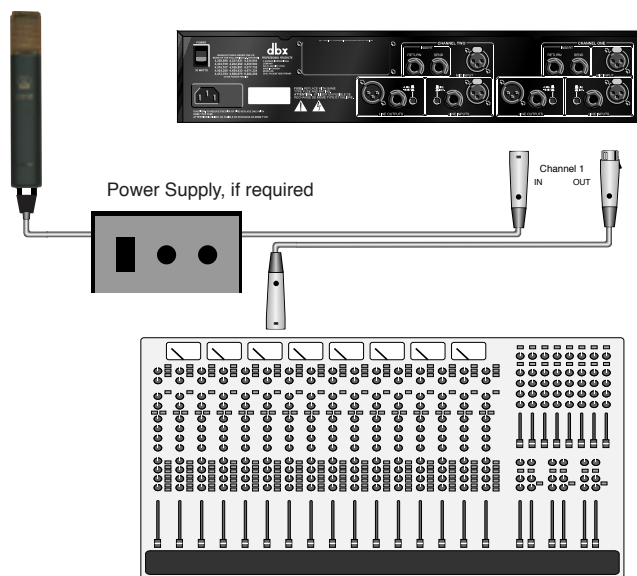

Figure 1: Connecting a Mic to a console.
1. Connect your mic cable to the Mic input of the 586 (See Figure 1, next page).